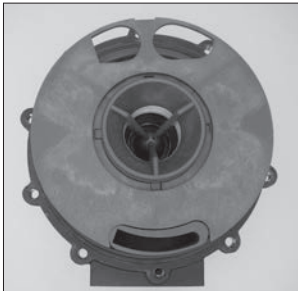

Figure 31
5. Install o-ring (item 10) in groove in barrier. Make sure o-ring is properly seated.
6. Install the separator plate (item 5) by lining up the bottom opening of the inner volute with the opening in the plate. Line up the slots in the separator plate with the notches in the inner volute. See figure 31.